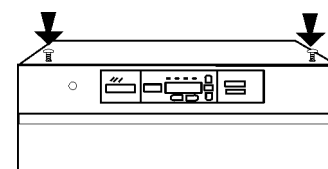

Figure 1-4. Slotted Head Screws
1. Remove and discard the slotted head screws on the top of the bottom incubator (Figure 1-4). Replace with 5/16 HH bolts and flatwashers included in the stacking kit. Do not tighten.
4. Unscrew and remove the leveling feet from the top unit and lift it onto the bottom unit, offsetting the base of the top unit approximately 2-3 inches behind the screws identified by the arrows in Figure 1-4.